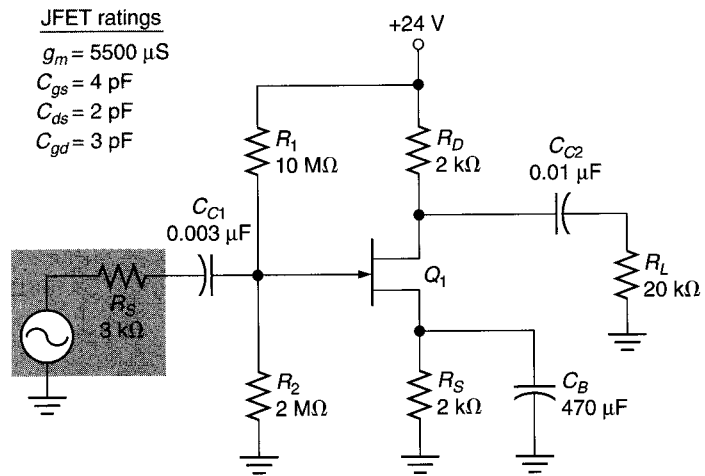

FIGURE 14.38
40. Calculate the overall values of  $f_{C1}$  and  $f_{C2}$  for the amplifier in Figure 14.38.